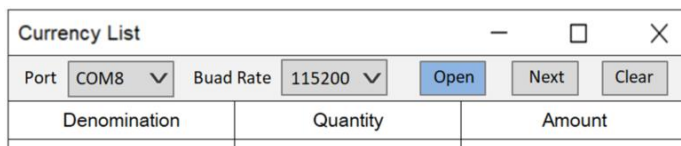

Figure 63
2) Select serial port and baud rate, and the baud rate must be consistent with the baud rate selected on the machine, as shown in Figure 63 below.